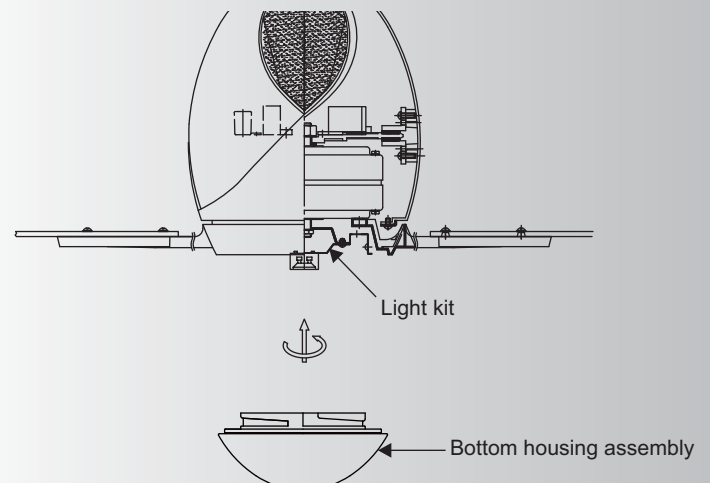

Fig. 20
Step 3. Raise the bottom housing assembly against the light kit and turn clockwise until snug, **DO NOT OVERTIGHTEN**. (Fig.20)